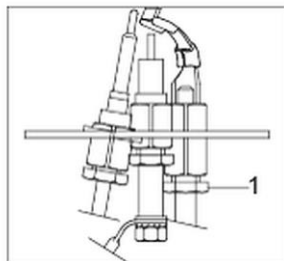

Fig. 8
- Loosen the fastening nut (1, Fig. 8).